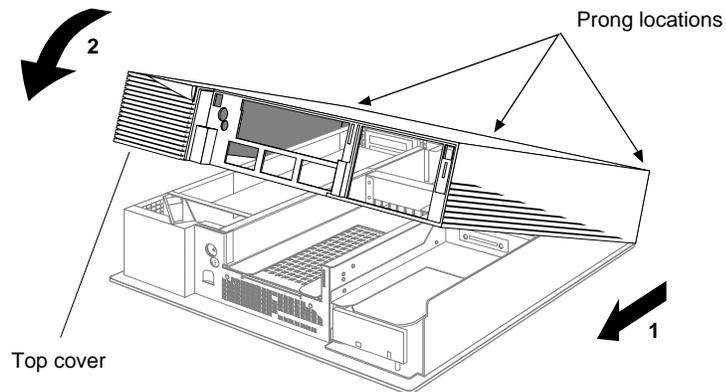

Figure 6 Replacing the Top Cover of the Indigo² Chassis
1. Place the prongs on the underside of the cover into the slots under the top ridge of the backplane of the chassis, as shown in Figure 6.